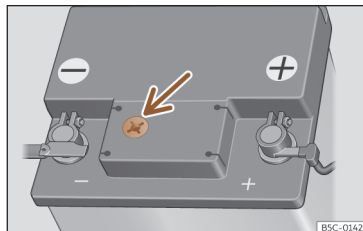

Fig. 234 Sight glass on the top of the 12 volt battery (schematic representation).
- Check the colour display in the sight glass on the top of the battery >>> **Fig. 234.**